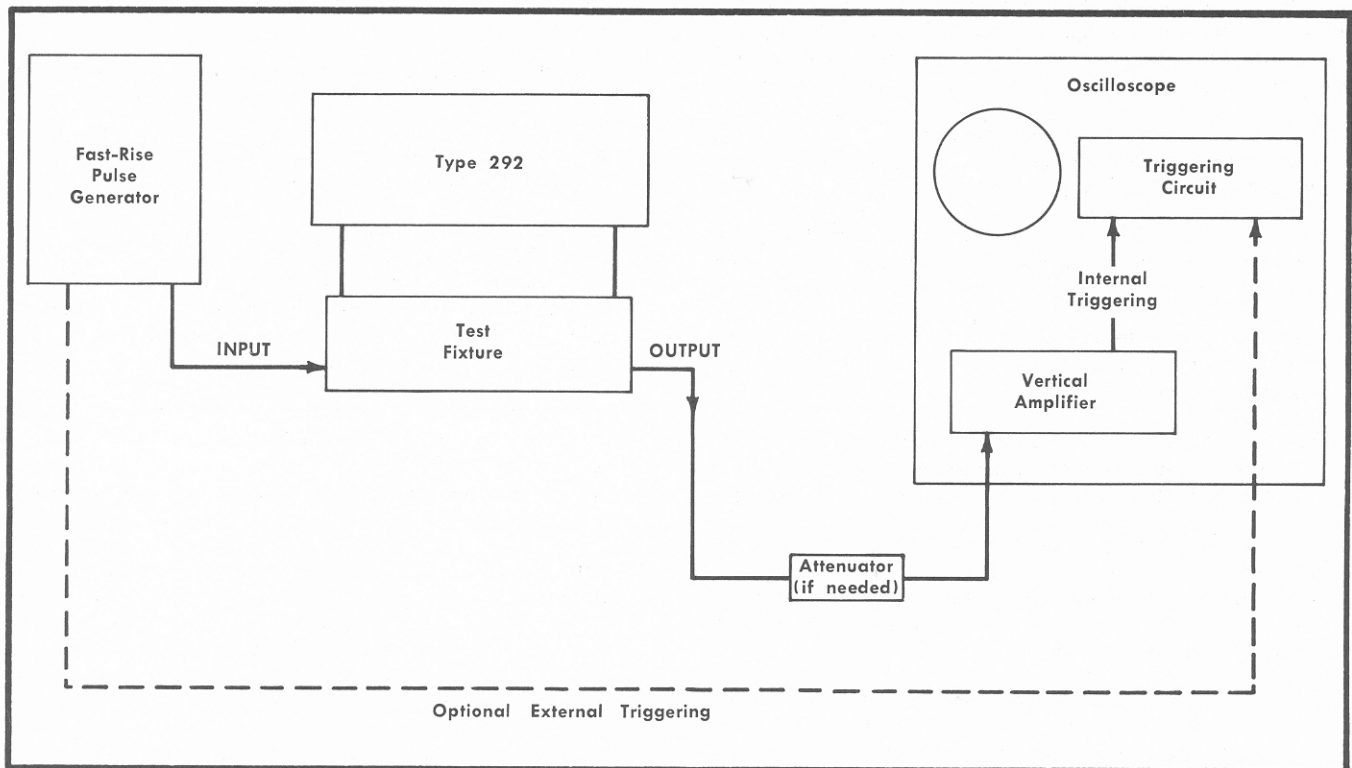

Fig. 2-32. Basic test system.
Vertical display voltage is obtained by diode current passing through the oscilloscope 50-ohm input impedance, thus providing 1 millivolt for each 20 microamps of diode current. The display voltage generated by the diode current can be reduced by connecting an attenuator between the test fixture and the oscilloscope, as shown in Fig. 2-32. However, with an attenuator between the test fixture and the oscilloscope, the current sensitivity is reduced by the attenuation factor. For example, if a 10X attenuator is used, each millivolt displayed equals 200 microamps of diode current.
1. With the test equipment connected as shown in Fig. 2-32, short across the test fixture by inserting a piece of  $1/16$ " wide copper strap as you would a diode.
1. With the test equipment connected as shown in Fig. 2-32, short across the test fixture by inserting a piece of  $1/16$ " copper strap as you would a diode.
1. Connect the test equipment as shown in Fig. 2-32 (the pulse generator is not needed for this procedure, but is necessary when measuring diode switching characteristics), and set the Type 292 bias current VARIABLE control to CALIB and the left BIAS CURRENT mAmps control to 10.